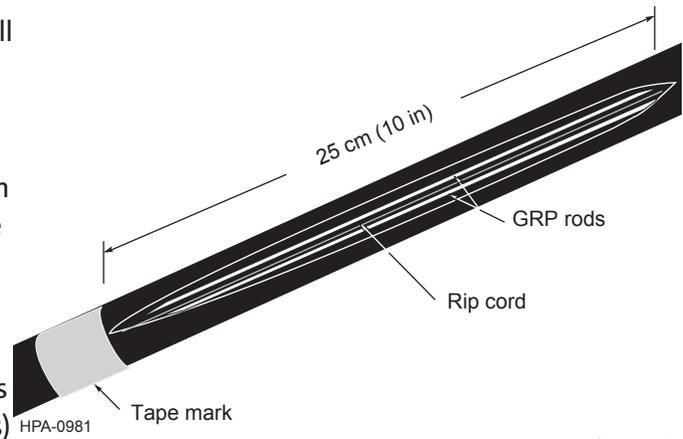

Figure 18
- c. Shave 25 cm (10 in) of the outer sheath directly over the GRP rods (Figure 18).